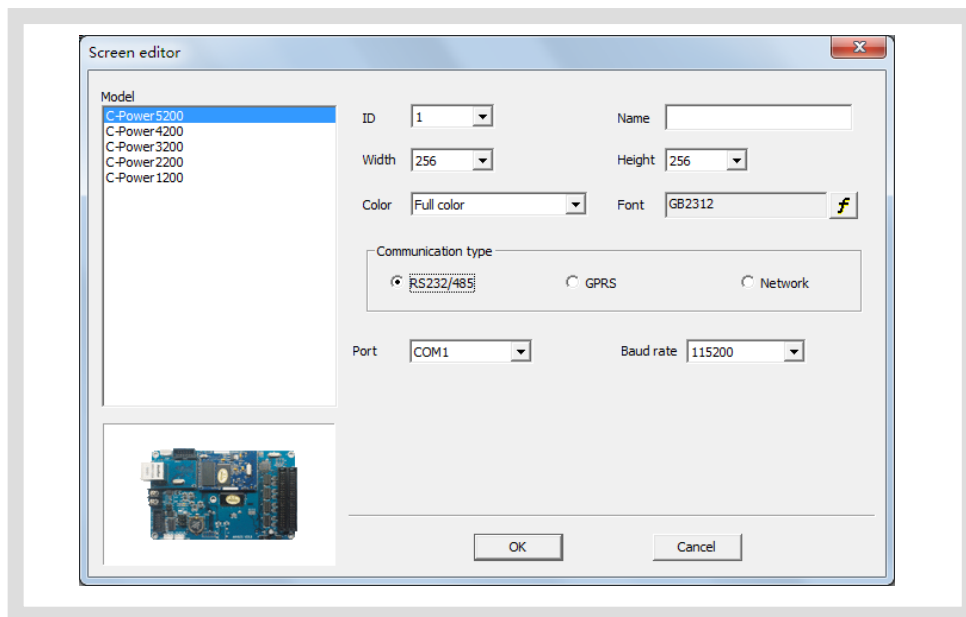
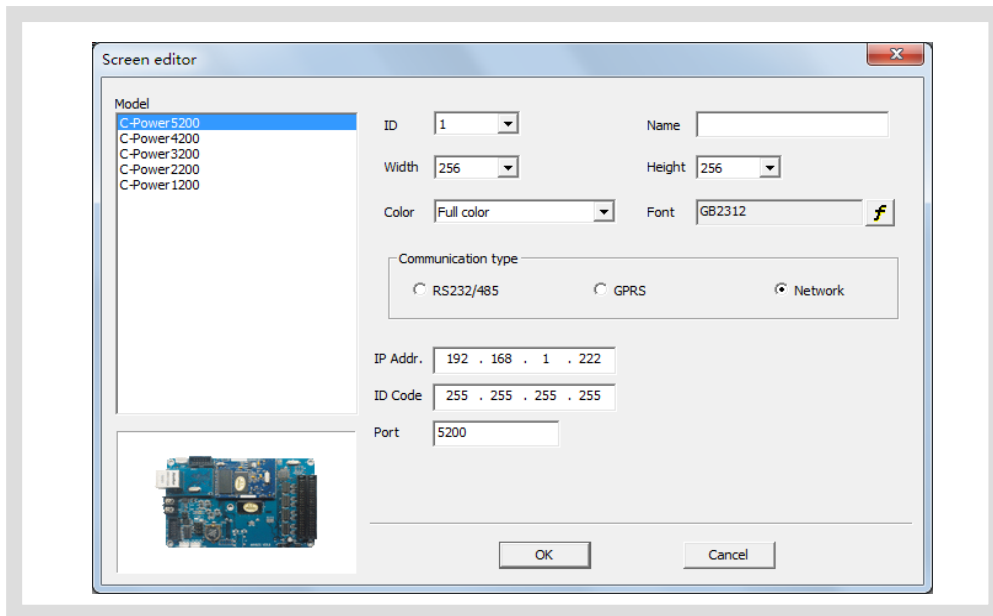

Figure5 “Screen editor” dialog box under COM port mode
Figure6 “Screen editor” dialog box under network mode
- 4) After click “New” or “Edit” button, enter the password1 in the popup box, and the box of “Screen editor” pops up, as shown in Figure5 and Figure6.
- Name: user can name the LED screen. The name will appear at the edit field. If no name input, the system will automatically display “C-Power xxxx (ID)”